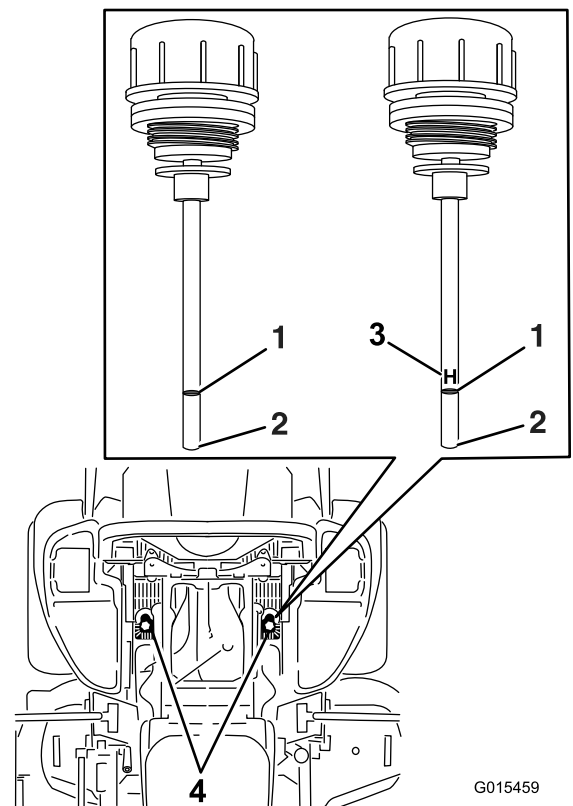

Figure 83
6. Clean the area around the dipsticks of hydraulic-system reservoirs (Figure 83).
7. Remove 1 dipstick from the hydraulic reservoir (Figure 83).
9. Remove the dipstick and look at the end (Figure 83).